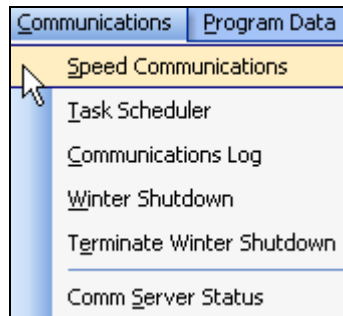

Figure 7.0.1
1. From the toolbar at the top of the screen select **Communications** then scroll down to **Speed Communications** and click on it (Figure 7.0.1)